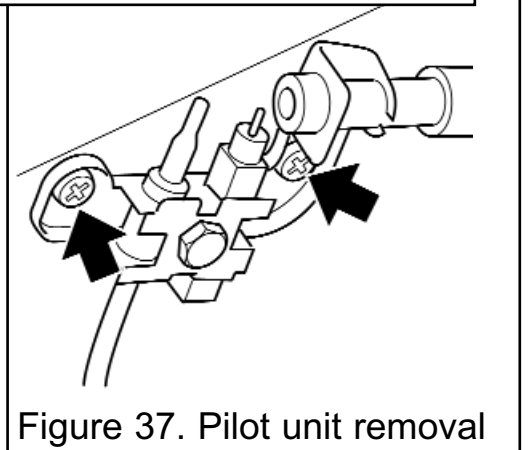

Figure 37. Pilot unit removal
7. Remove the two screws securing the pilot unit (See figure 37).